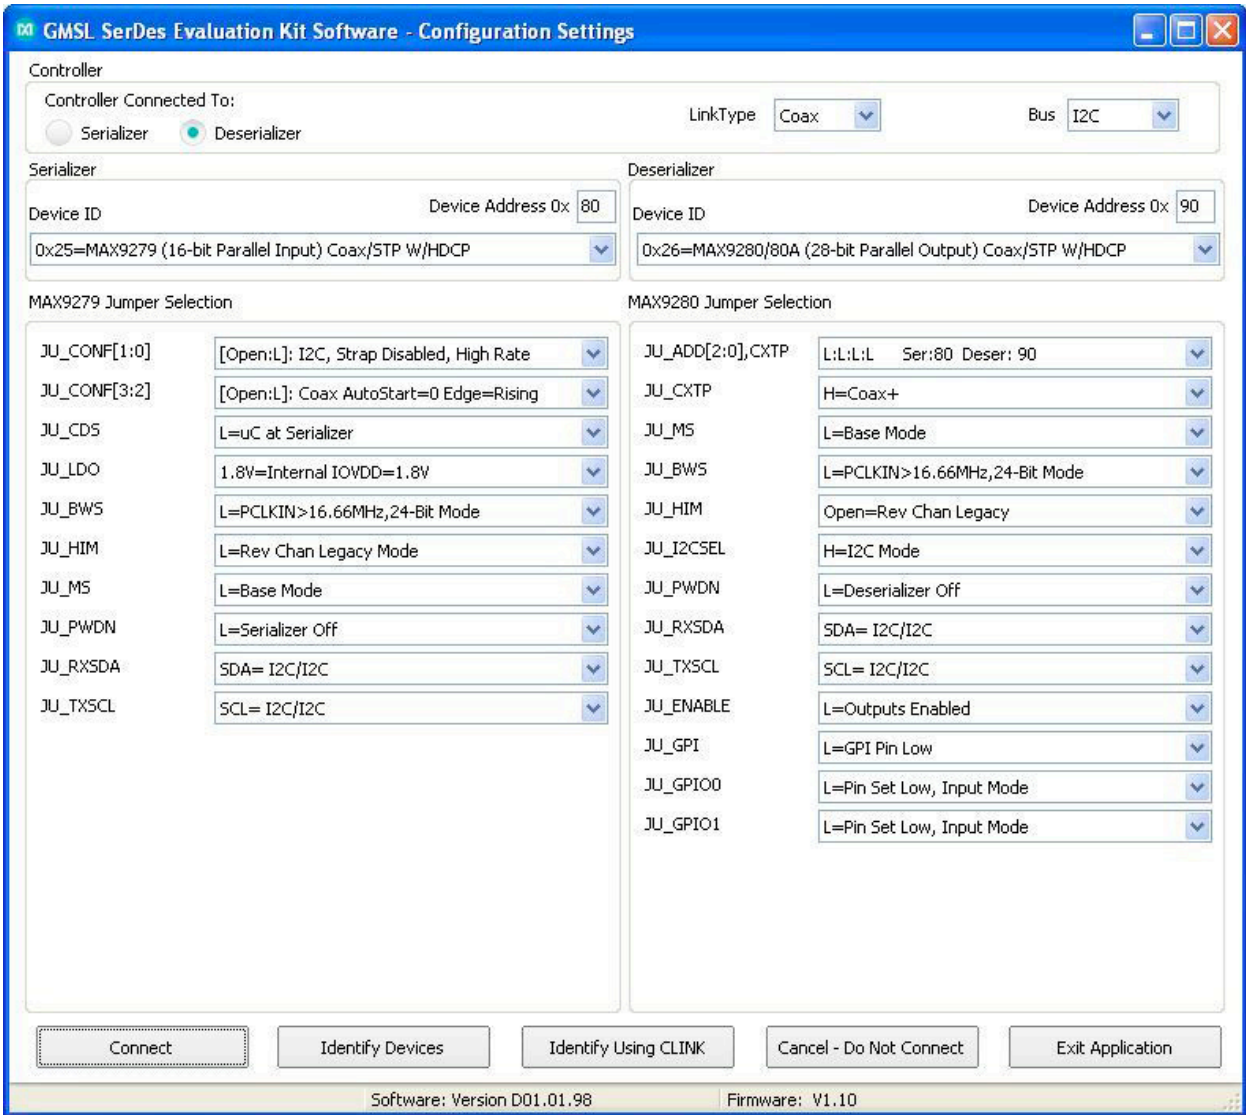
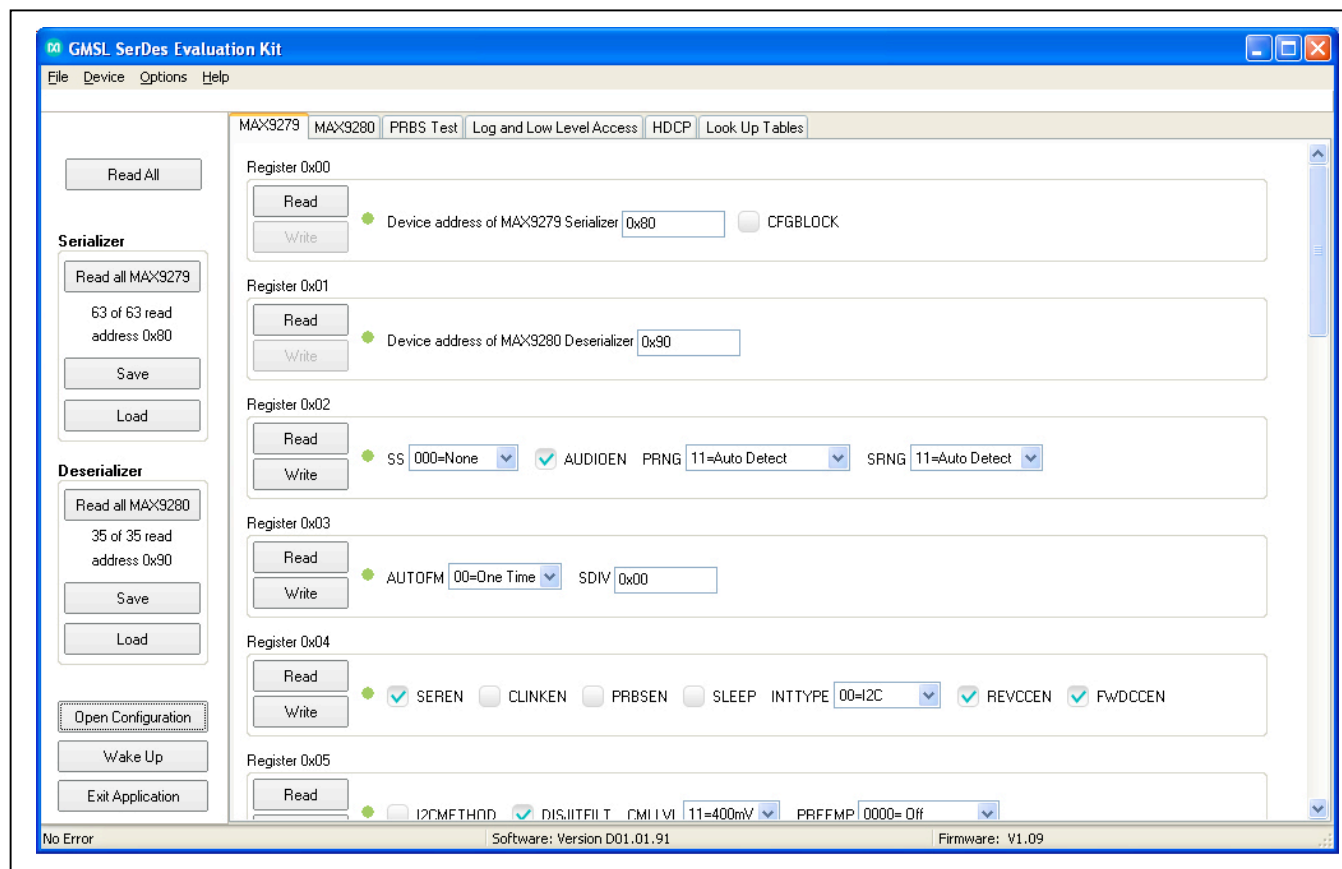

Figure 1. MAXSerDesEV-N EV Kit Software: Configuration Settings Window
Figure 2. MAXSerDesEV-N EV Kit Software: Evaluation Kit Window (MAX9279 Tab)
- 13) The EV kit software **Configuration Settings** window is the first window that opens after successful launch. It helps the user to set up the serializer and deserializer boards properly and specify the mode of operation (Figure 1).
- 17) I2C-to-I2C mode support: To enable I2C-to-I2C mode, change jumpers JU\_CONF1 and JU\_CONF0 (Figure 1), and change jumpers JU\_TXSCL from the TX to SCL position and JU\_RXSDA from the RX to SDA position. Press the **Identify Devices** button to verify proper settings. Alternatively, make the changes and select **I2C** from the **Bus** drop-down list before pressing the **Connect** button to start the **GMSL SerDes Evaluation Kit Window** (Figure 2).
The **Configuration Settings** window (Figure 1) is the first window that opens after program launch. It allows the user to specify evaluation board setup and mode of operation.
The **Evaluation Kit** window (Figure 2) provides access to all internal functions of the DUTs by means of reading and writing registers through different tabs, allowing the user to evaluate various functions of the SerDes.
The **MAX9279** tab (Figure 2) lists the serializer's registers and bit maps. **Read** and **Write** buttons in each register group box allows read/write access for each bit (or group of bits) that specify a function or condition, as defined in the